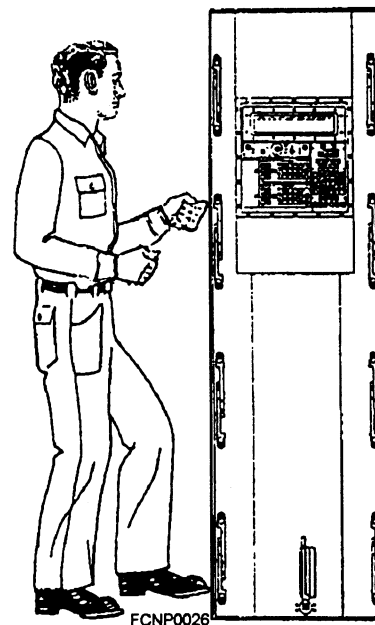

Figure 1-3.—Example of a mainframe computer.
complex, and as systems are updated, the programs must be revised to meet the new demands of the fleet. Operational programs for mainframe computers are supported by technical teams external to the command. Two examples of mainframes are the AN/UYSK-7(V) and the AN/UYSK-43(V) computers. They are general-purpose, militarized, digital data computers with large-scale memories, I/O capabilities, and multiprocessing capabilities that allow a number of CPUs to operate simultaneously in the same system. They interface with other mainframes and peripherals in the data processing subsystem, the display subsystem, and the communication subsystem. Training is obtained through formal C schools and is NEC producing. Figure 1-3 is an example of one of the Navy's mainframe computers.